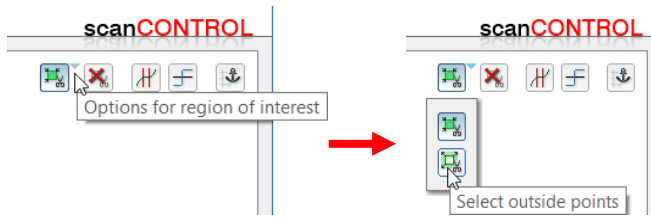

Fig. 3.35: "Options for region of interest" context menu (Select inside points/Select outside points)
- Open the "Options for region of interest" context menu. To do this, press the corresponding button located right to the "Set region of interest" button (see Fig. 3.35)
➡ Use the context menu to select the desired mode (see Fig. 3.35)